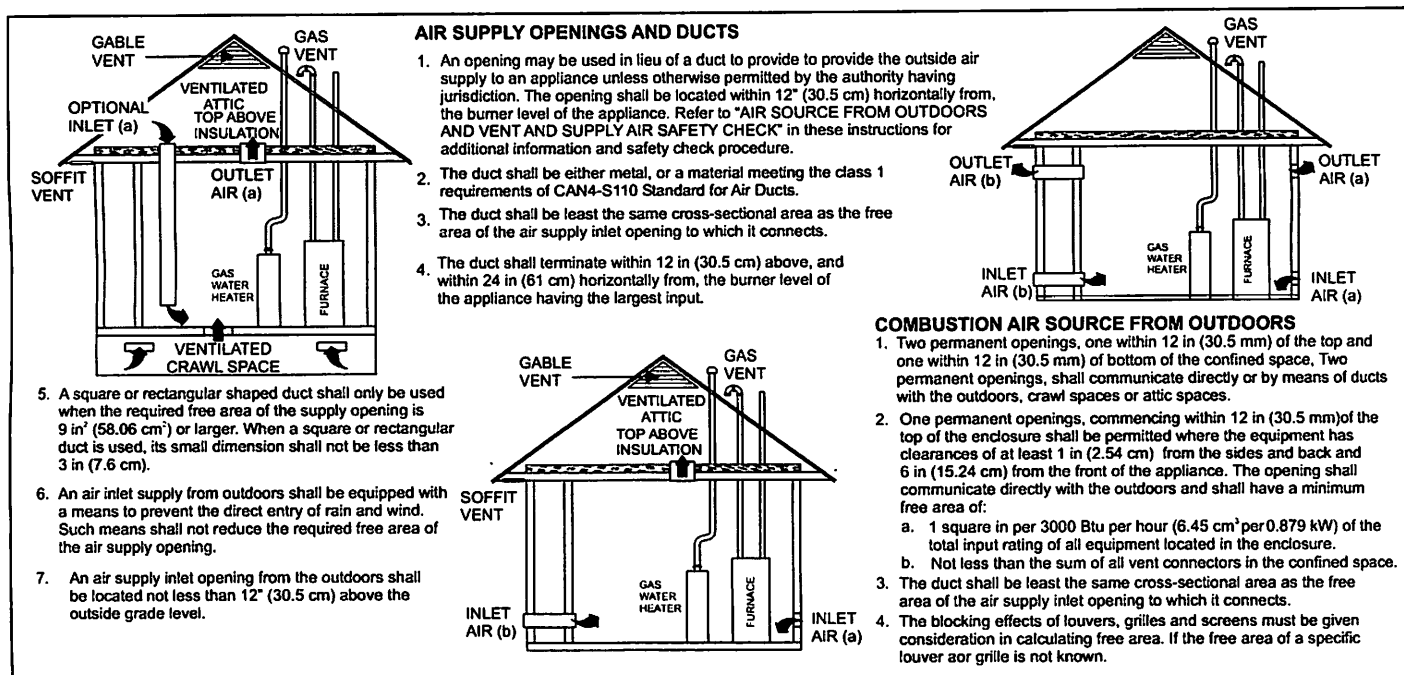

FIGURE 28: Outside and Ambient Combustion Air
3. **VENTILATED COMBUSTION AIR:** Combustion air is supplied through a PVC or ABS pipe that is connected to the PVC coupling attached to the burner box and is terminated in a ventilated attic or crawl space. The combustion air and the vent pipes are not terminated in the same atmospheric zone. Refer to Figure 28 for crawl space and attic termination. Only the combustion air intake may terminate in the attic. The vent must terminate outside.